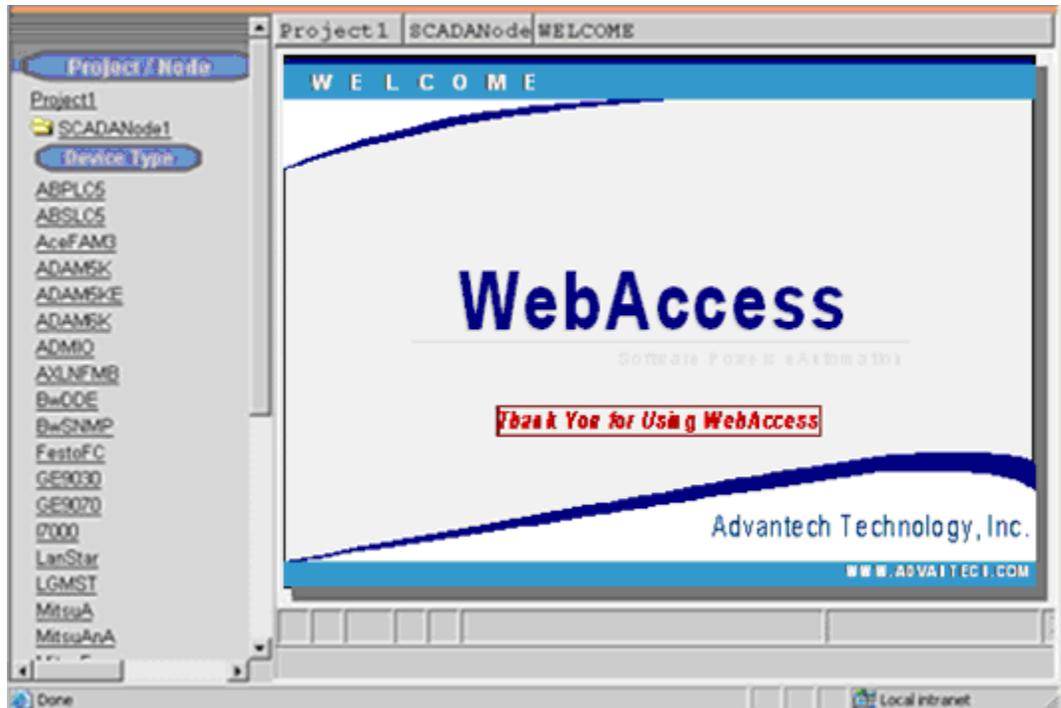

Figure 4-39 - Login page, start VIEW –from Project Manager
10. Welcome to Advantech WebAccess Login appears (Figure 4-39) if the Client is installed.